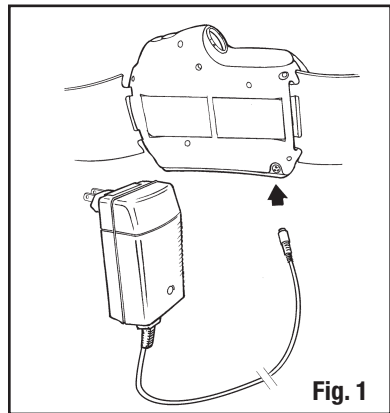

Fig. 1
- Connect the charger output into the battery's charging socket (Fig. 1).